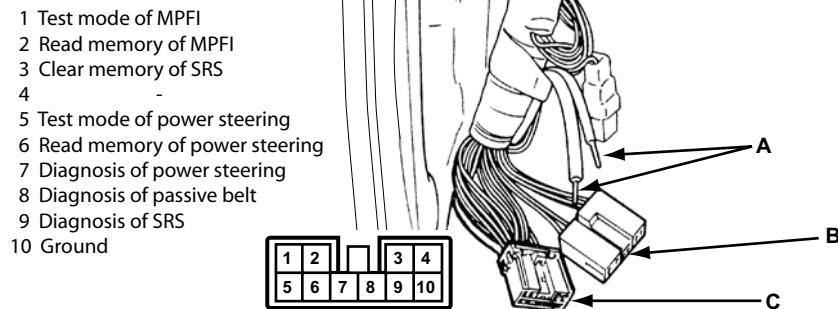

Figure 15-43 1992-95 SVX models (connectors in left kick panel)
- “1992-95 SVX models (connectors in left kick panel)” on page 198 (Figure 15-43)